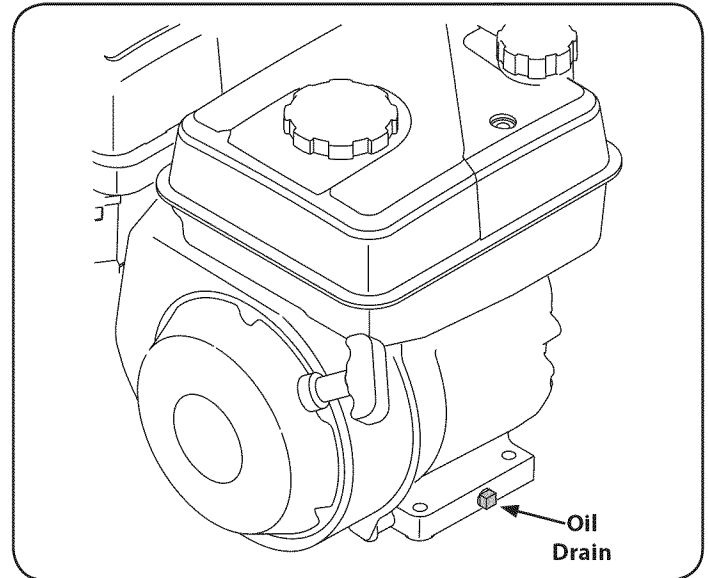

Figure 26
3. Place a funnel under the oil drain to avoid getting oil on the tiller frame. See Figure 26.
4. Remove oil drain end cap located at the base of the engine, and drain oil into an appropriate receptacle. See Figure 26.